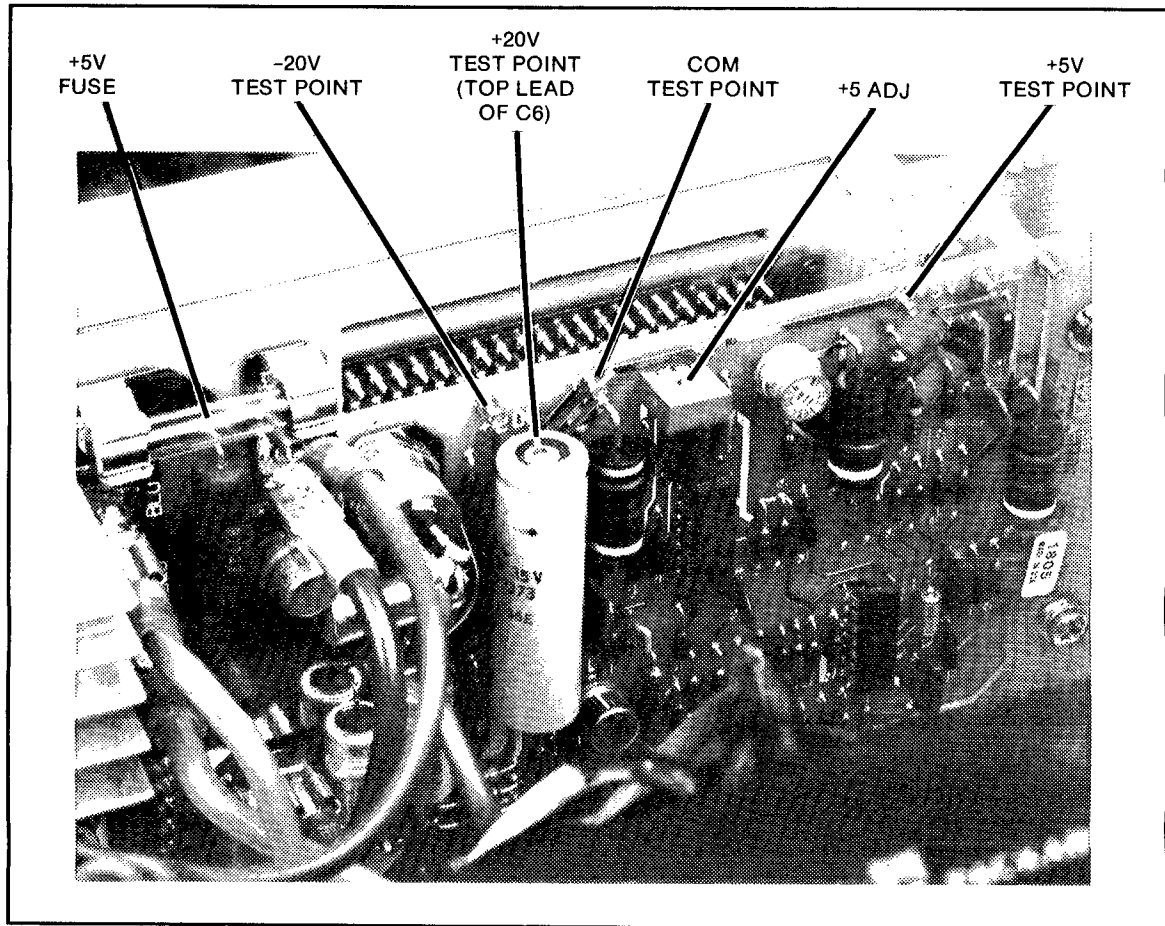

Figure 2-6. Power Supply Adjustment and Test Points
- E. Power Supply Check -- Verify correct power supply voltages. See figure 2-6 for test points. Refer to tables 2-4 and 2-5 for measured values.